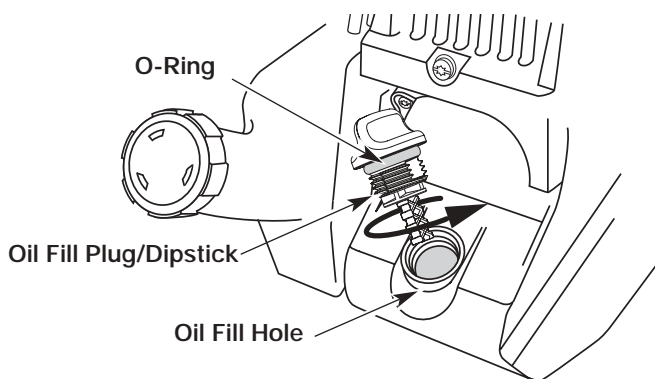

Fig. 16
6. If the level is low, add a small amount of oil to the oil fill hole and recheck (Fig. 16). Repeat this procedure until the oil level reaches the top of the dipstick.
**NOTE:** Make sure the O-ring is in place on the oil fill plug/dipstick when checking and changing the oil (Fig. 16).